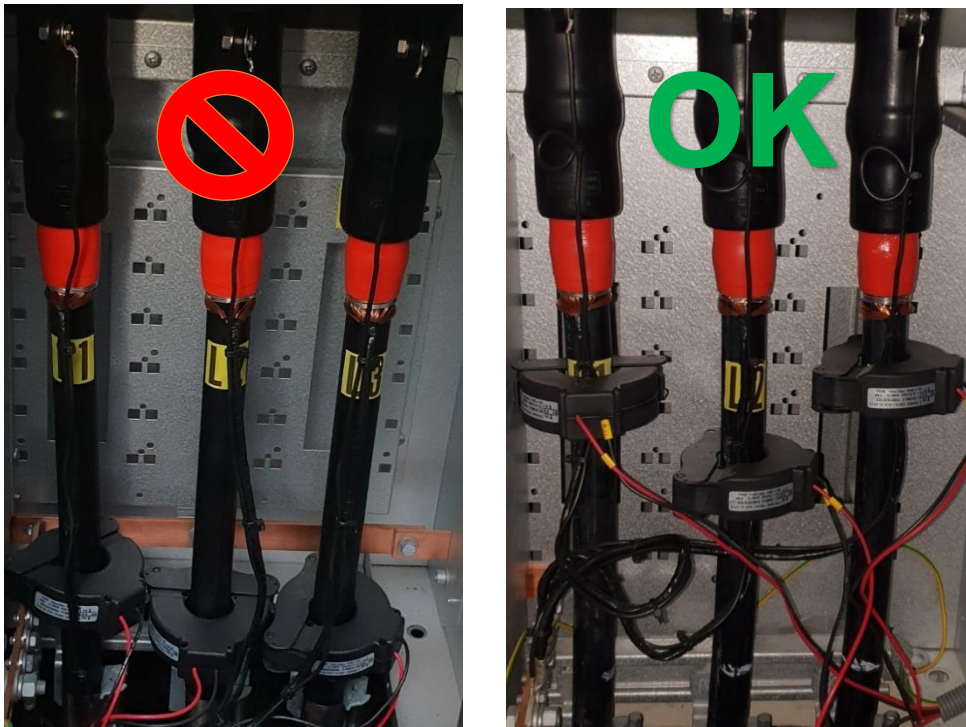

Figure 7: Left – wrong – the earth shield returns *OUTSIDE* the current transformers.
2. The shield current shall not be measured by the fault detector. This is the reason why they earth shield is led back through the transformer; any shield current will be cancelled (Figure 7).